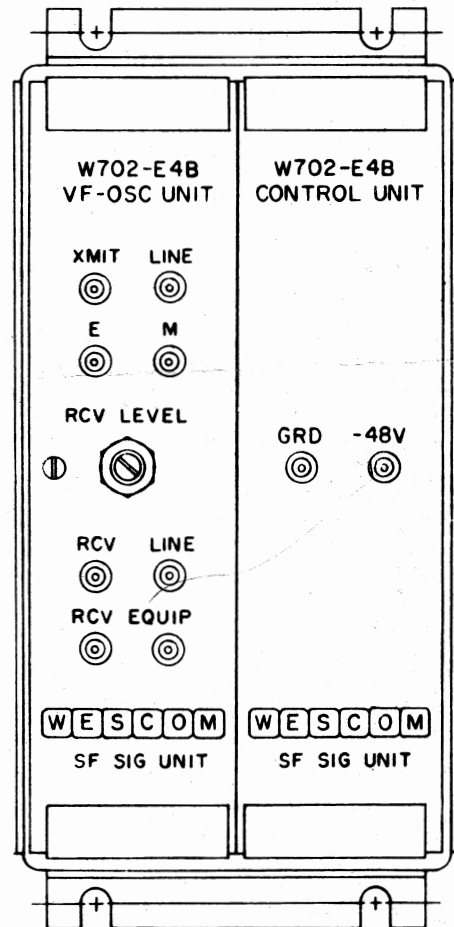

Fig. 1. W702-E4B Front View
Test jacks at the front panel provide for monitoring of operating signals and voltage levels. See Fig. 1.
5.01 A single screwdriver adjustment is all that is required to place the unit in operation. This adjustment, RCV LEVEL is located on the front of the VF-OSC DRAWER. See Figure 1.